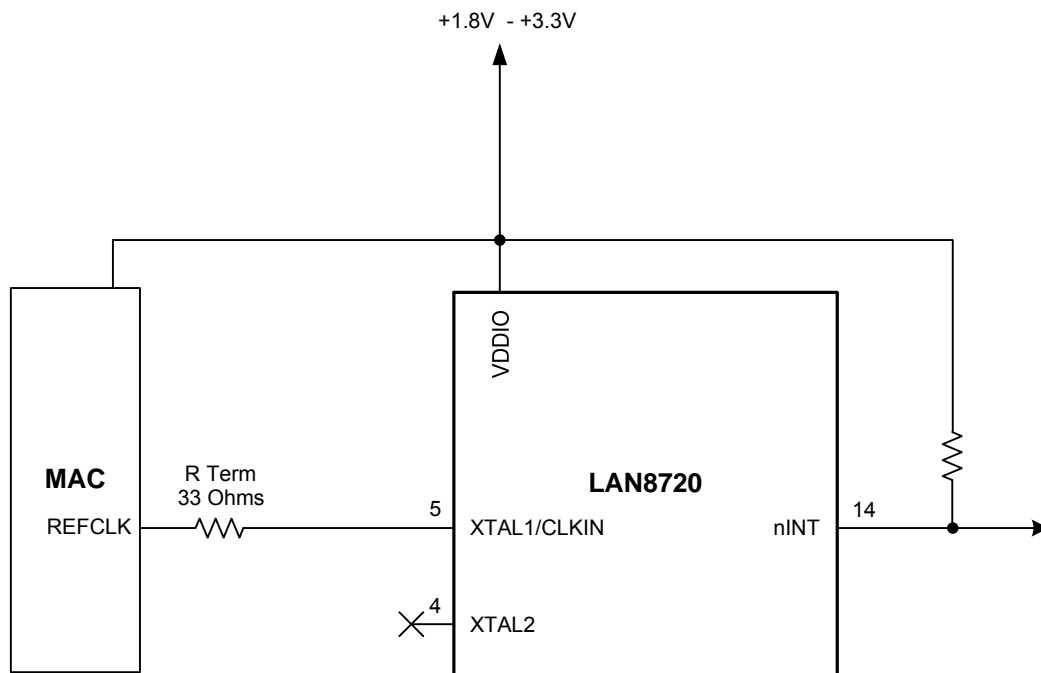

Figure 6 – LAN8720 MAC REFCLK Oscillator Connections
3. When the LED2/nINTSEL pin (pin 2) is used in conjunction with a LED, refer to Figure 6 below for details.